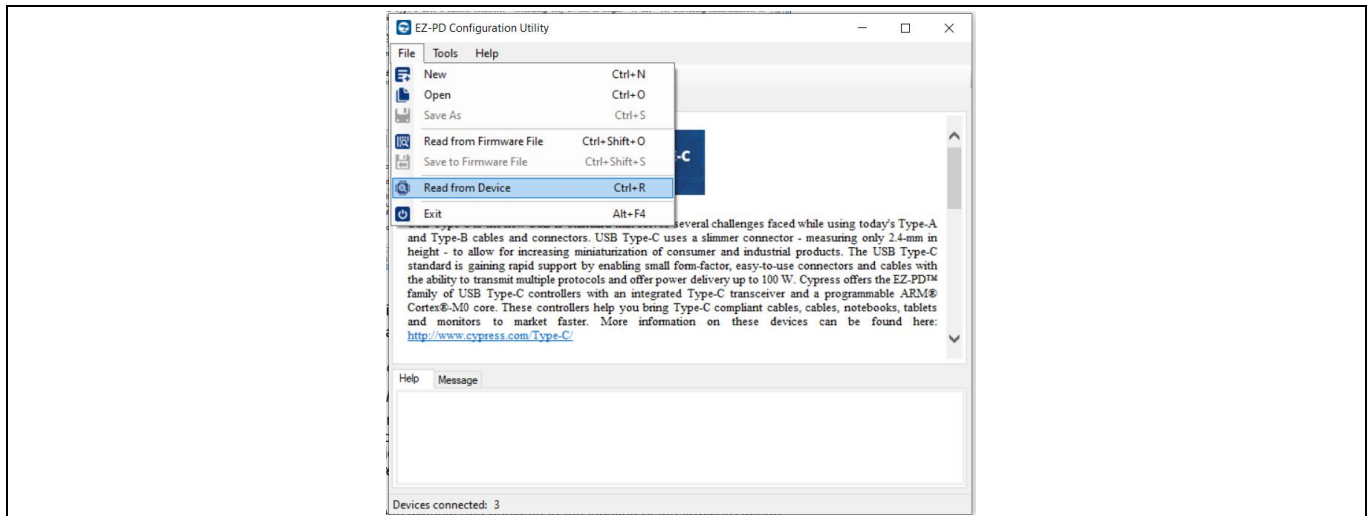

Figure 15 Read existing configuration parameters
6. Select **File > Read from Device** to read the existing configuration parameters from the BCR-PLUS device as shown in **Figure 15**.